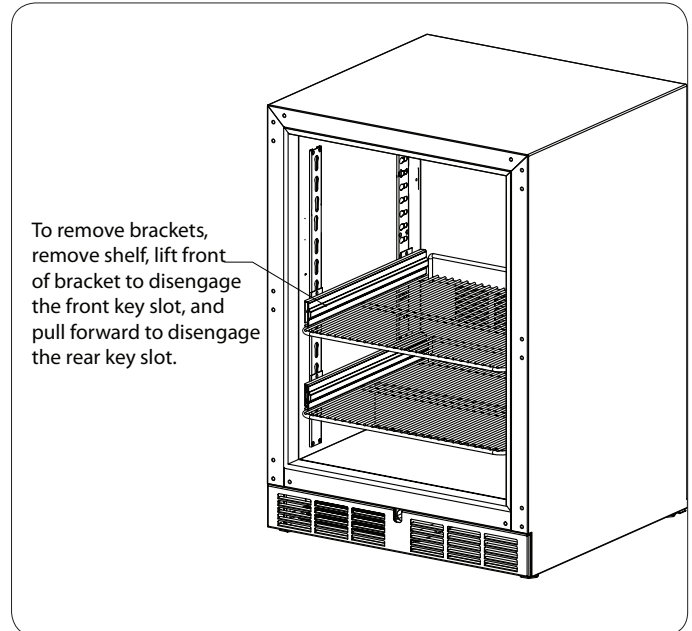

Figure 5. Sliding Shelf Mounting Brackets
2. Reposition each bracket separately. Grasp the middle of the bracket, pull the front end up and out, then forward to remove (Figure 5).